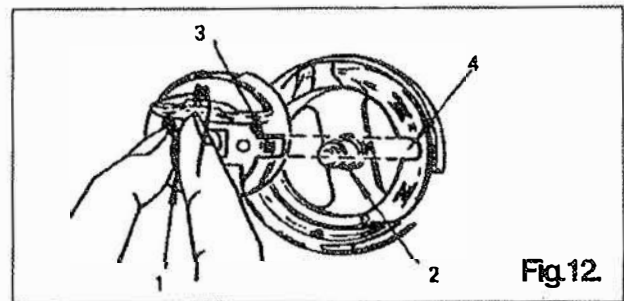

Fig. 12.
Hold bobbin case by latch (1) and place it on spindle of bobbin case holder (2) so that position finger (3) enters notch (4) at right of bobbin case holder (see Fig. 12). Release latch and press bobbin case firmly in place to assure proper position. Close bed slide.